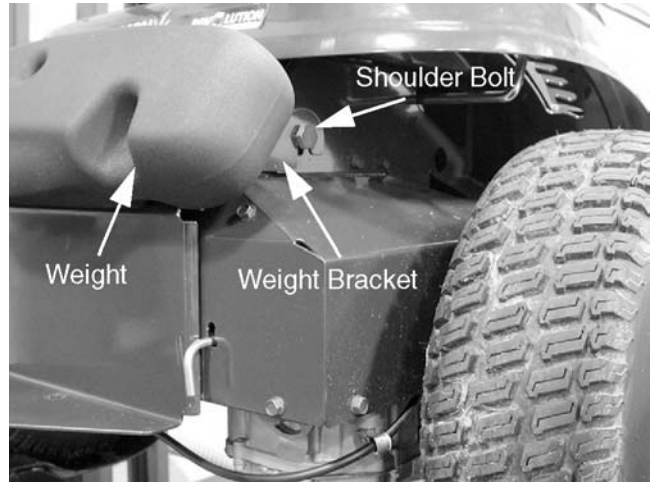

**Figure 11-15**
9. Slide the drive belt pulley off the bottom of the crankshaft. See Figure 11-15.